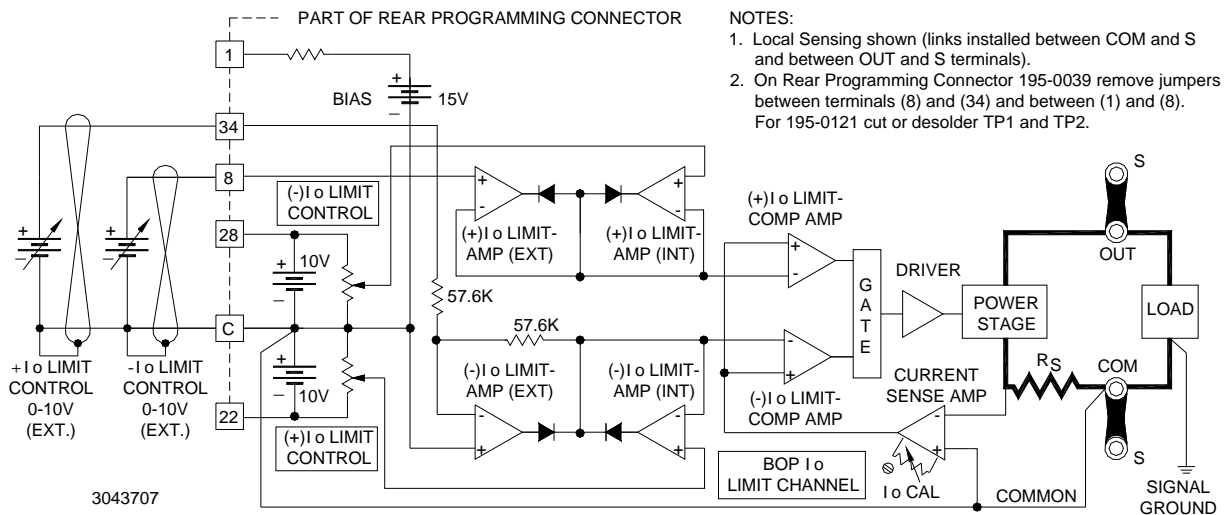

FIGURE 3-14. INDEPENDENT REMOTE CONTROL OF + I_O AND - I_O LIMITS
If individual control of the \pm current limits is desired, the jumper between (8) and (34) at the Rear Programming Connector must be removed and separate control sources must be connected: 0 to +10 volts to pin 8 for the $+ I_O$ limit, and 0 to +10 volts to pin 34 for the $- I_O$ limit, both with reference to common (see Figure 3-14).